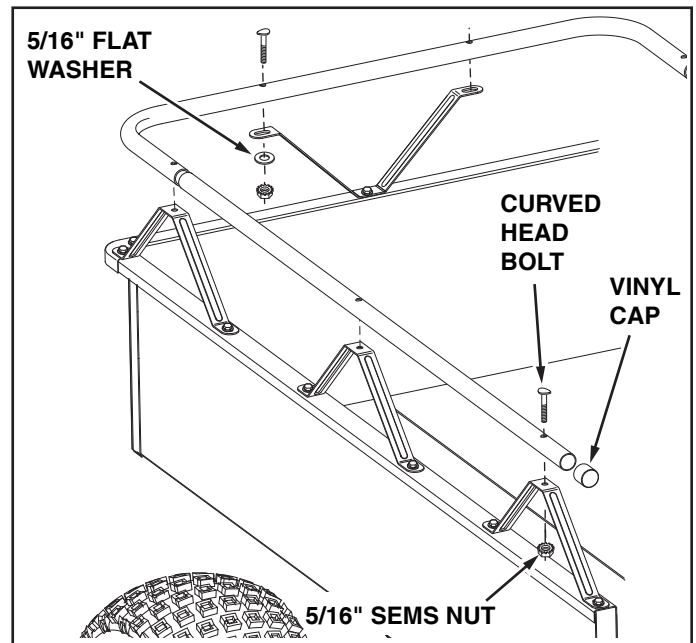

FIGURE 15
30. Insert the ends of the side rails into the front rail so that the holes align. See figure 15.
31. Assemble the side rails to the rail braces on the sides of the cart using six curved head bolts and 5/16" SEMS nuts. **Tighten all** loose nuts and bolts. See figure 15.
32. Assemble the front rail to the rail brace on the front of the cart using two curved head bolts, 5/16" flat washers and 5/16" SEMS nuts. **Tighten all** loose nuts and bolts. See figure 15.
33. Assemble two vinyl caps onto the ends of the side rails. See figure 15.